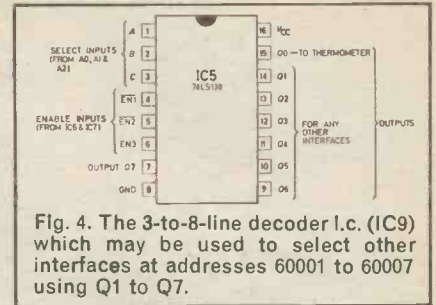

Fig. 4. The 3-to-8-line decoder i.c. (IC9) which may be used to select other interfaces at addresses 60001 to 60007 using Q1 to Q7.
A2 are low (001), the output Q1 goes low (Fig. 4). This could be connected to a second analogue-to-digital section or some other interface board. This low output occurs only when the address on the bus is 60 001. The decoder board can be used for any address from 60 000 to 60 007. Later, you may wish to connect other interfaces to your computer, you can use this board to decode their addresses.